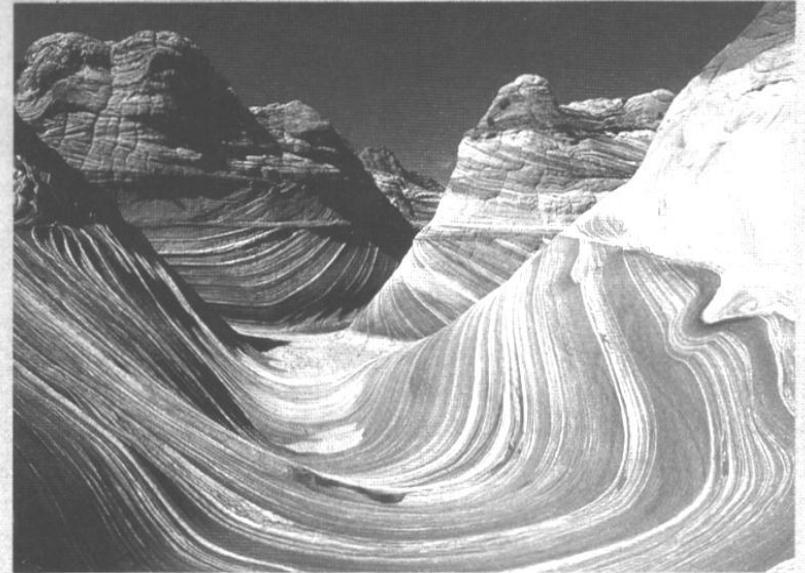

Figure. 3.10 Nestles Canyon, Arizona. Courtesy of Wolfgang Cohnen (©1997)
M. Reiner is credited with naming the Deborah Number after the song of Deborah, Judges 5:5- "The mountains flowed before the Lord"(Fig. 3.10). It was first mentioned in his article "The Deborah Number" in the January 1964 issue of Physics Today.